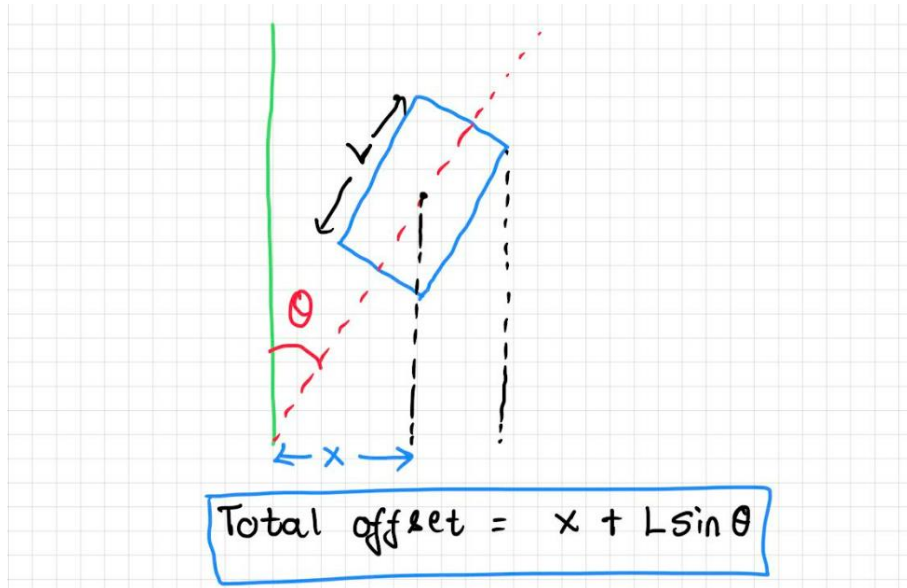
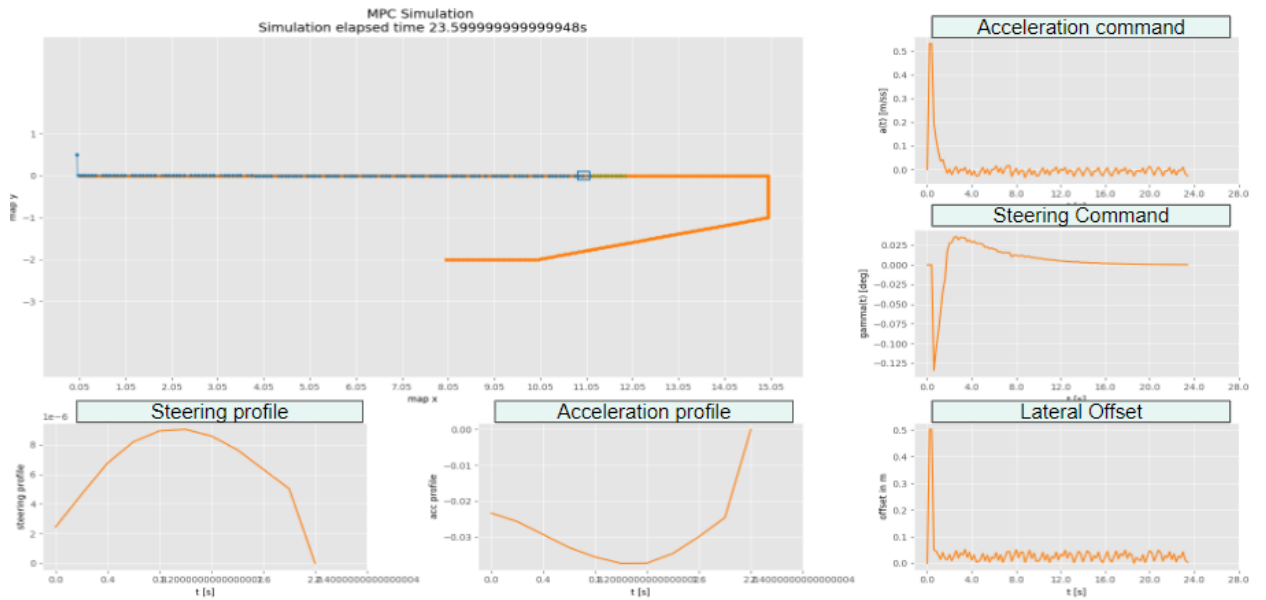

Figure 1.1.2: Lateral offset calculation
Figure 1.1.3: MPC simulation
**Offset calculation:** The external perception will have noisy estimates and the MPC will work with these data. The RC car should still remain within the lane boundaries. To simulate this, a random offset is added to current state estimates and given to MPC. The plot of MPC simulation shows the lateral offset to be less than 5cm on a straight road which is acceptable. Lateral offset is calculated considering yaw of the vehicle as well. The figure 1.1.2 shows how lateral offset is calculated. Refer figure 1.1.3 for MPC simulation plots.
**Generate acceleration and steering profile:** The MPC outputs a series of input for steering and acceleration. The profile ensures when communication is lost between controller and RC car the RC car will follow this profile and come to a stop. The profile can be seen in Figure 1.1.3